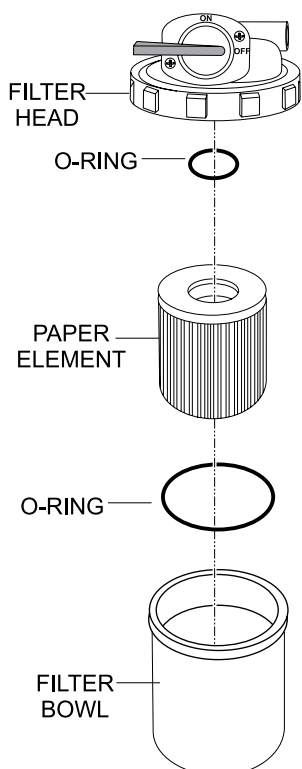

Figure 41. Fuel Filter Disassembly
3. Unscrew the **filter bowl** from the **filter head** (Figure 41).
5. Remove the **paper element** (Figure 41) from the fuel filter and rinse with diesel fuel.